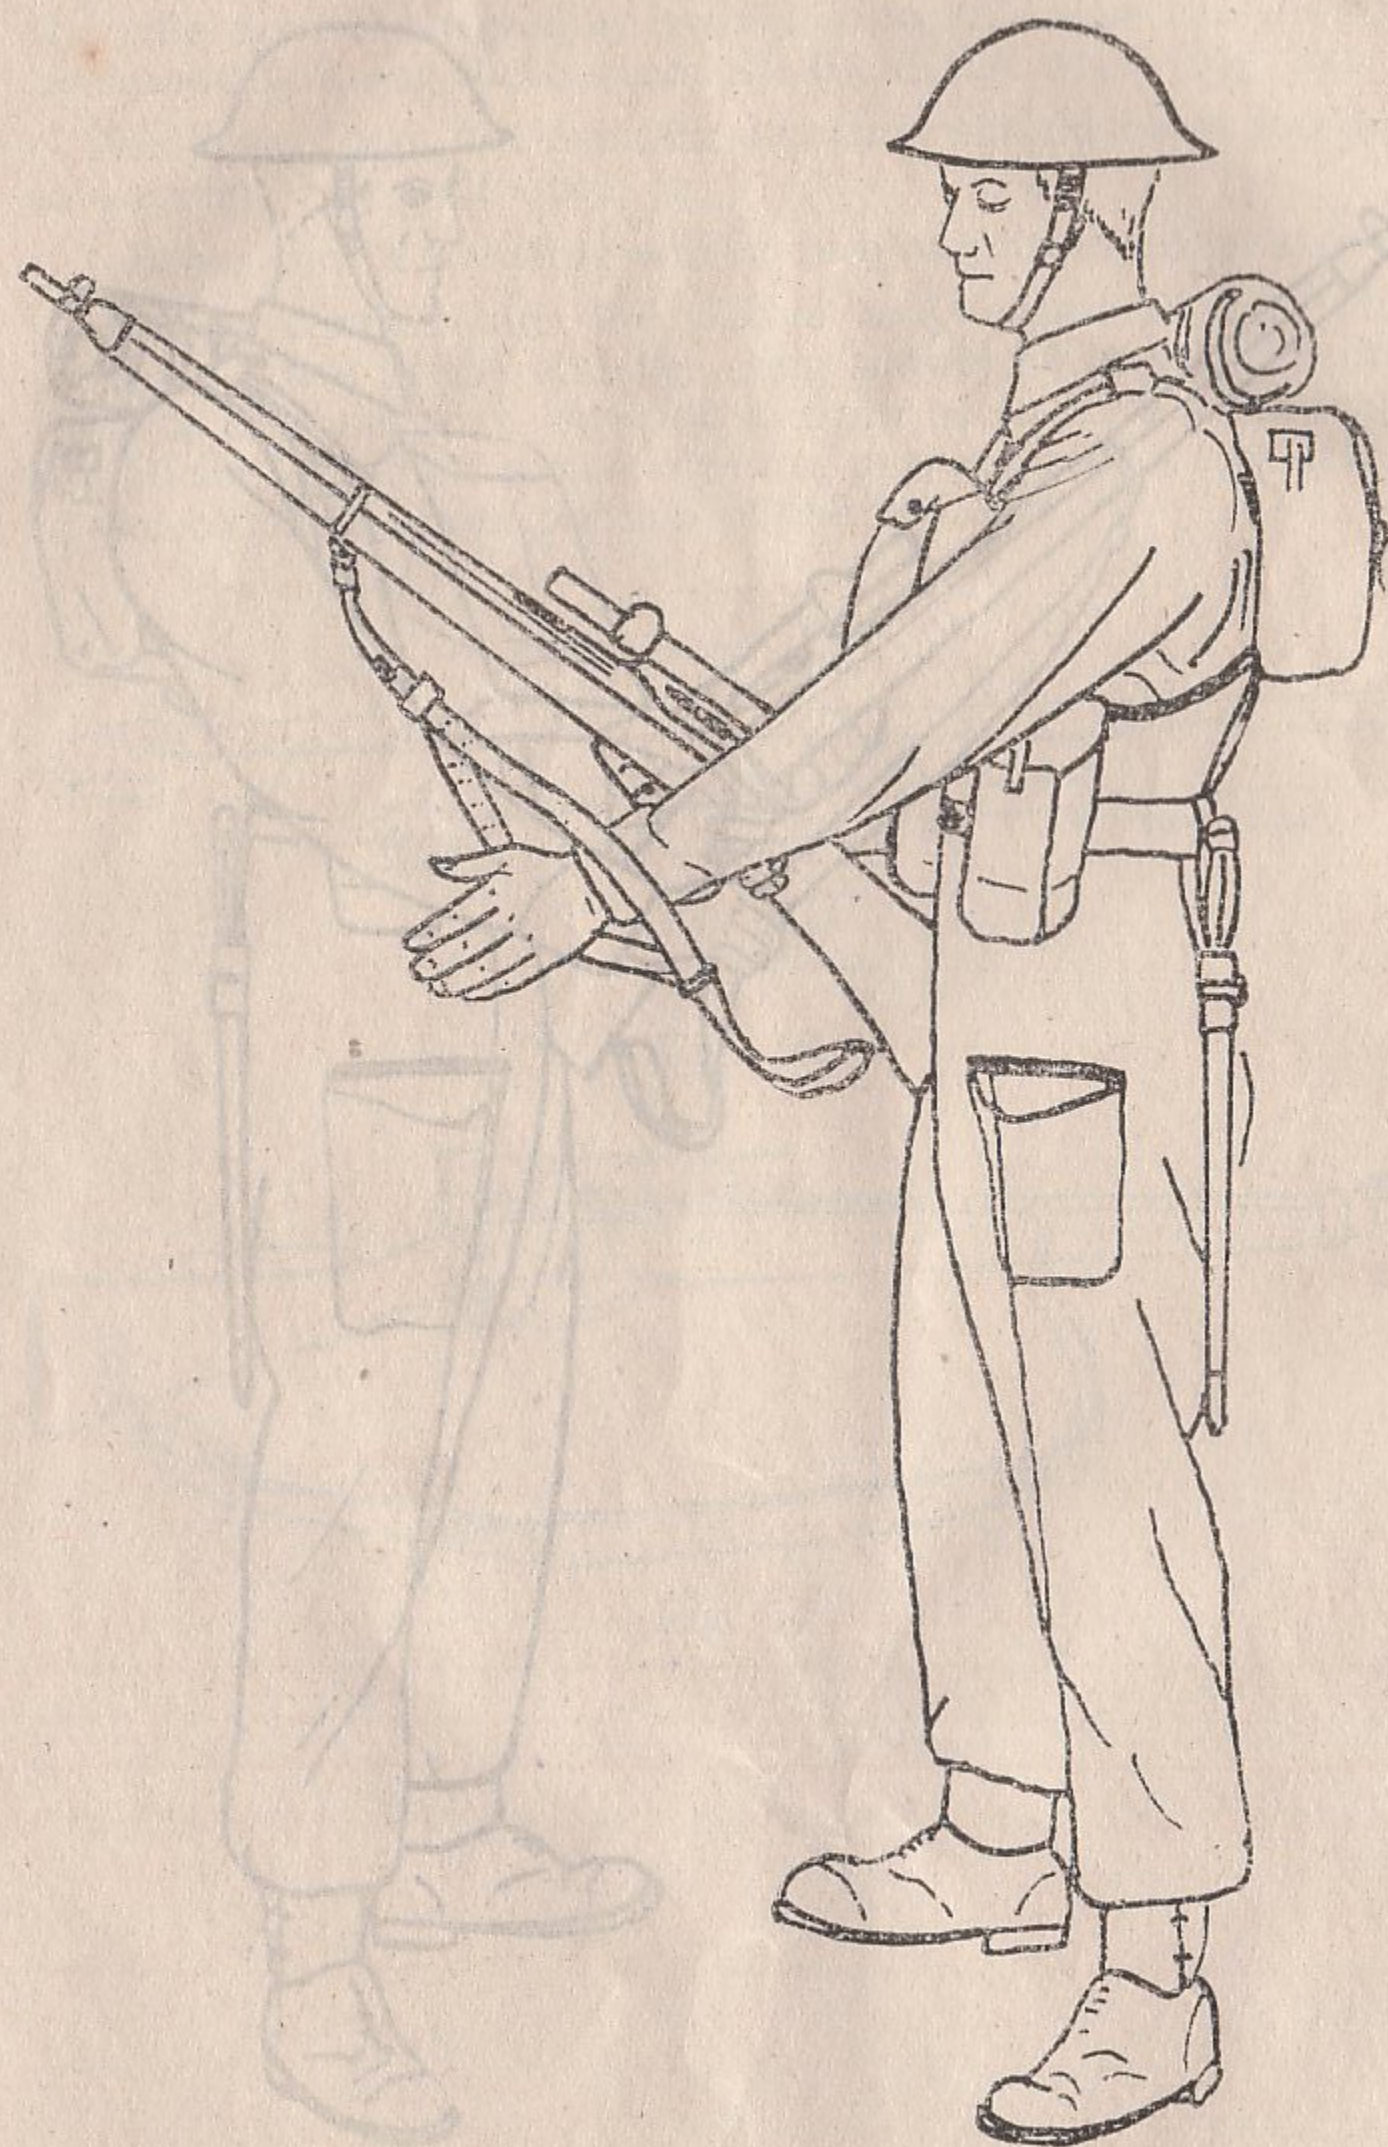

Fig. 19
- ii. Insert the left arm through the upper loop from right to left. (To facilitate doing this, the sling should be given a half turn in an anti-clockwise direction.) Hoist the upper loop well up the arm so that it is near the shoulder and well above the biceps muscle (Fig. 19).